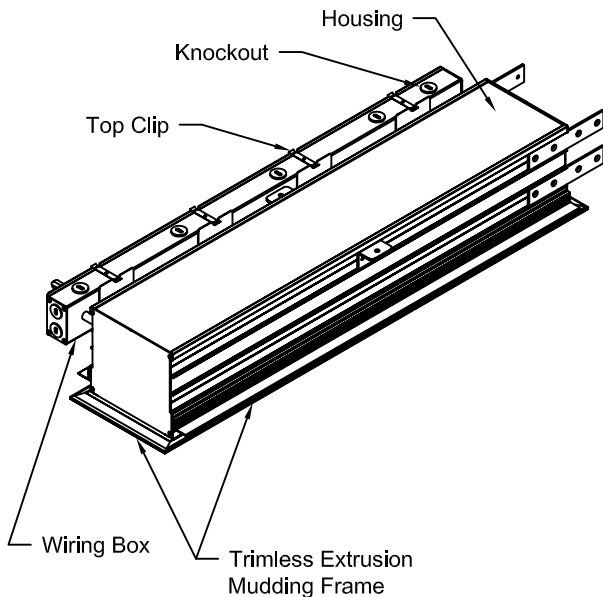
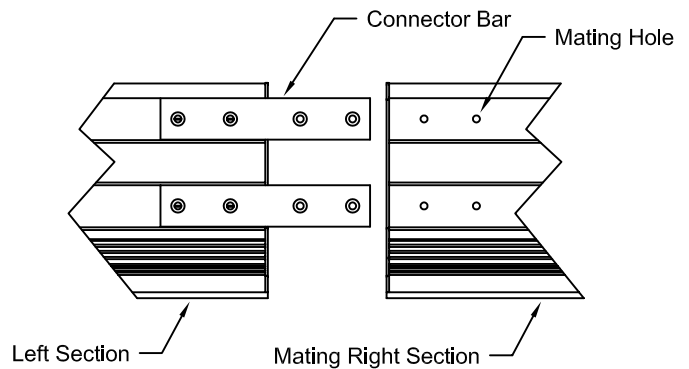

Figure 1
Figure 3
1. Locate Trimless Extrusion Mudding Frame on all Housings. See Fig. 1.
1. Hang Housing(s) from Hanger Brackets located on sides of Fixture(s) using 1/4-20 Screw. See Fig. 1 and Fig. 3.
2. Connect Wiring Box to Electrical Service using Knockouts located at each end of Wiring Box and Knockout along top of Wiring Box as needed. See Fig. 1.
3. To remove Rear Access Panel(s) for inspection, lift Clips at Top and Bottom of Wiring Box. See Fig. 1 & Fig. 3.